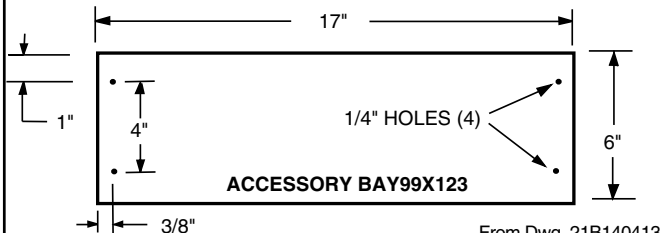

Figure 3
NOTE: If air handler is used WITHOUT a supplementary electric heater, a sheetmetal plate is required to cover the open hole in the airflow system. See Figure 3.
6. Remove top 8 screws. See Figure 3.